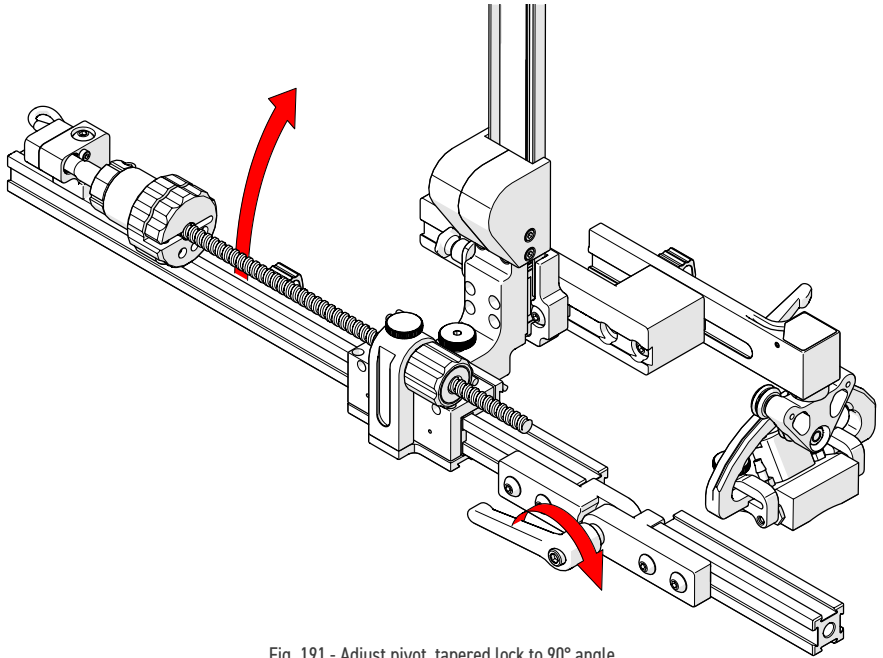

Fig. 191 - Adjust pivot, tapered lock to 90° angle
6. Release the pivot, tapered lock and position the 3-axis nozzle frame 90° (Fig. 191). Tighten the pivot tapered lock.